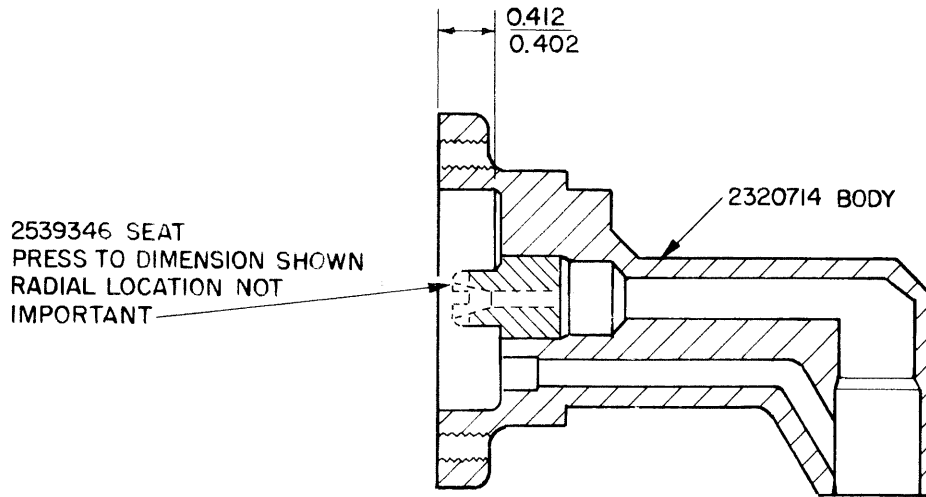

Figure 1.
(3) Press the new Part Number 2539346 seat into body with an arbor press to the dimension indicated in Figure 1 of this directive. Wipe excess sealant from the bushing and body with MEK or acetone.